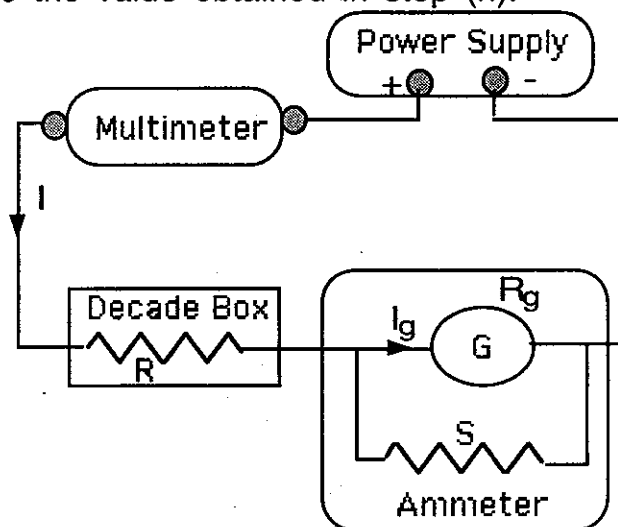

Fig. 4.5
- (n) Make the connections as shown in Fig. 4.5. The multimeter should be set to read D.C. current. Adjust the voltage of the power supply to zero and adjust R to about 2000 Ω .